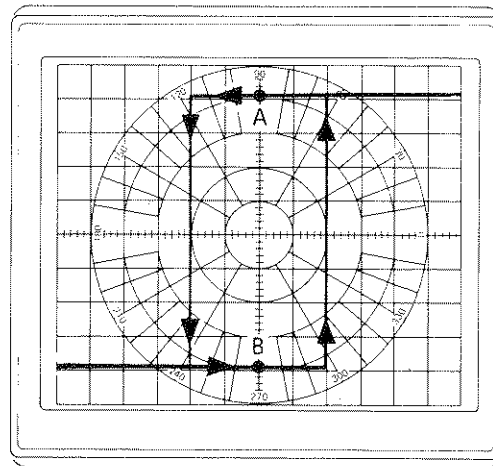

Figure A2-22. Hysteresis Loop of Phase Trace
- d. Set SCAN TIME SEC to MANUAL. Sweep through the transition in both forward and reverse direction using the Manual sweep control. Note the hysteresis loop as shown in Figure A2-22.
- e. Adjust both CW FREQUENCY and $\pm\Delta F$ FREQUENCY to make the hysteresis loop six divisions wide and centered on the vertical center line of CRT. (See Figure A2-22.)
- f. Press Channel 1 DISPLAY MKR. Center trace dot on the vertical center line at point "A" on Figure A2-22 trace. The marker readout should be +180 degrees ±3.3 degrees.
- g. Center trace dot on the vertical center line at point "B" on Figure A2-22 trace. The Channel 1 marker readout should be -180 degrees ±3.3 degrees.